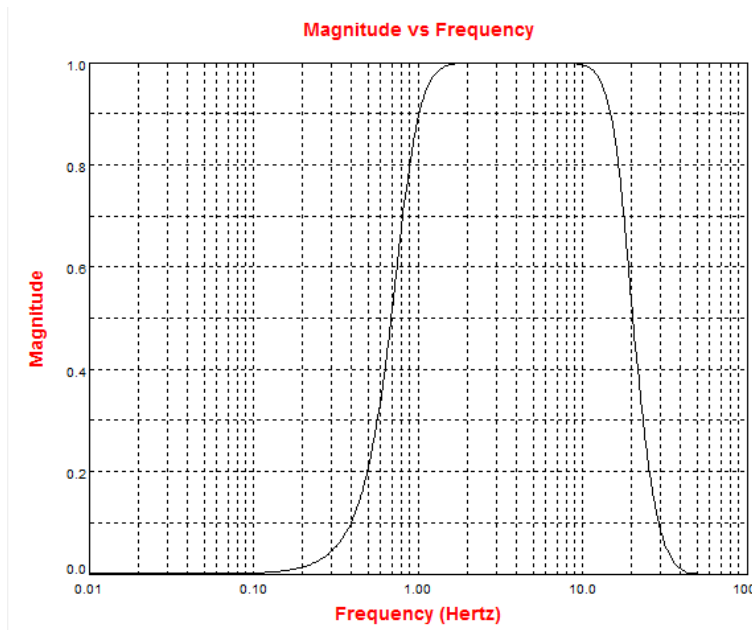

Figure 5 - MitiGator+ standard trigger filter response
- The “standard” MitiGator+ trigger filter of 1-15Hz (Figure 5)